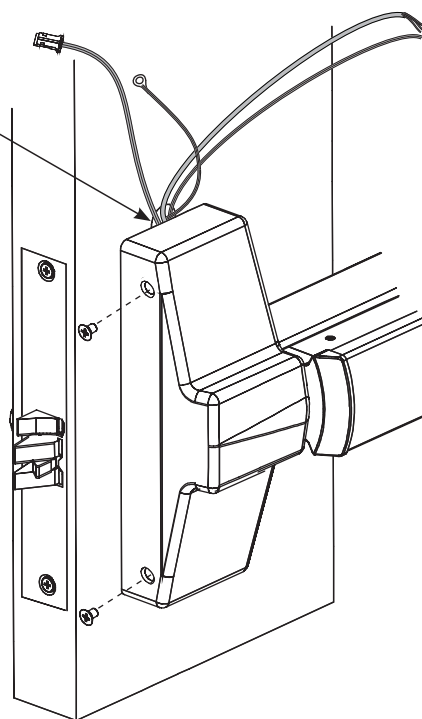

Figure 6-6B
2. Attach head cover using two (2) #8-32 flat head screws. (Figure 6-6B)